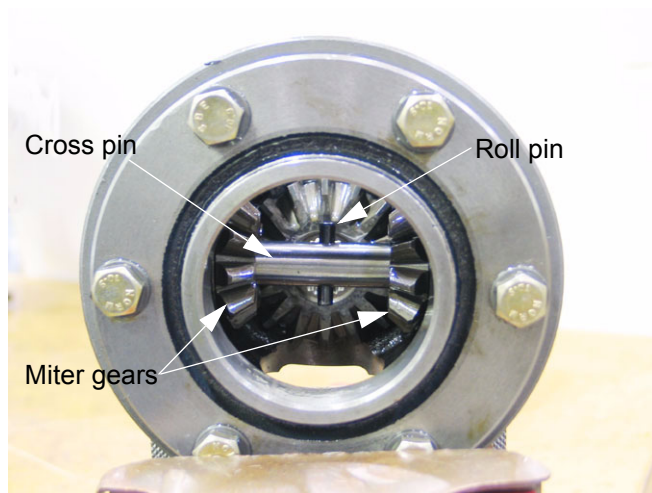

Figure 9.25
- 9.25. Drive the roll pin from the cross pin that the miter gears ride on using a flat-nosed drift. See Figure 9.25.